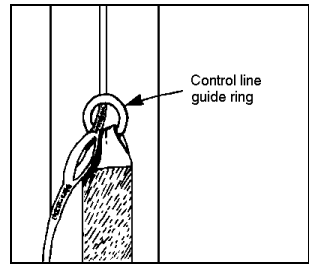

Figure 8.
Step 4.) Set the brakes by pulling the control line down through the guide ring until the brake loop "cat-eye" just passes through the guide ring. (See Figure 8.)